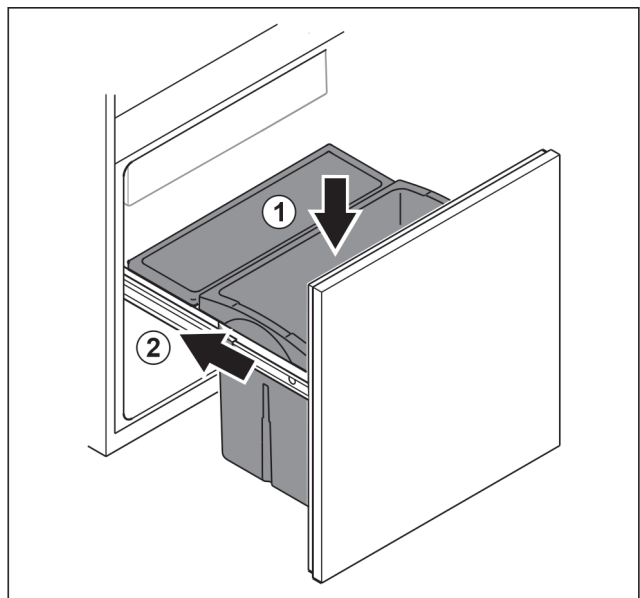

Fig. 98
- ▶ Insert drawer from above. Fig. 98 (1)
- ▶ Slide in pull-out unit. Fig. 98 (2)